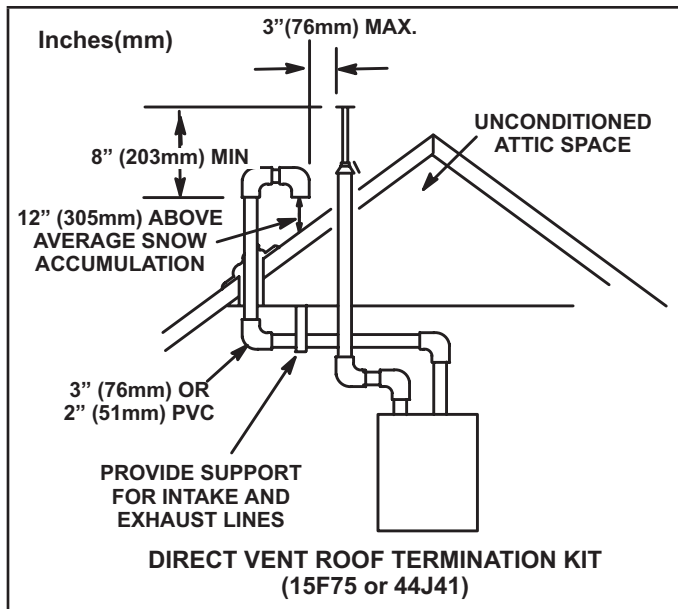

FIGURE 30
- 3 - On roof terminations, the intake piping should terminate straight down using two 90° elbows (See FIGURE 30).